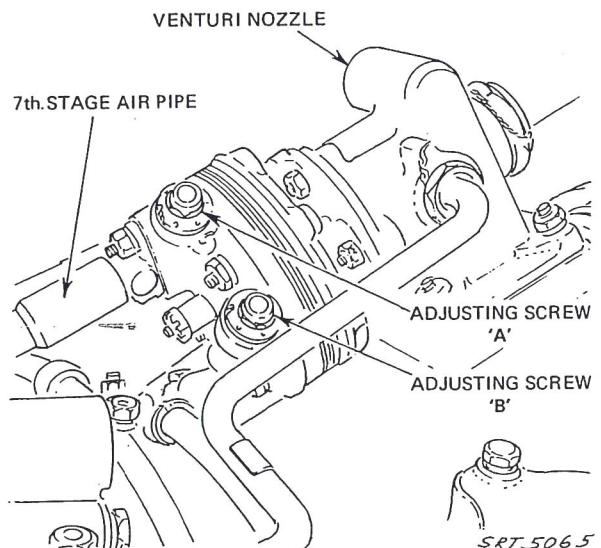

Fig.1 Air bleed valve control unit
(1) Adjusting screw 'B' (fig.1) alters the valve opening and closing points, equally and in the same direction, along the rev/min range. Adjusting screw 'A' (fig.1) alters the rev/min differential between valve opening and closing and, has secondarily and to a smaller extent, a similar effect to adjusting screw 'B'.